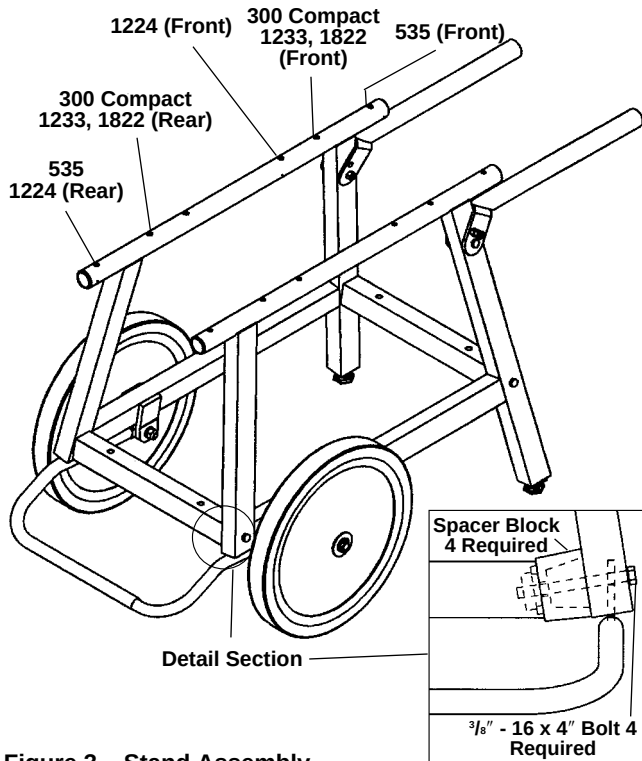

Figure 3 – Stand Assembly
3. Assemble stand with "inside" decals located towards the inside of the stand (Figure 3).
4. Insert stand stop tabs into bottom of the legs as shown in the detail drawing. Insert the four spacers between the legs. Use the four (4) $\frac{3}{8}" - 16 \times 4"$ hex bolts to secure the legs to the cross-member. Adjust the two halves of the stand stop to the proper distance
CAUTION For proper balance and operation, RIDGID machines must be mounted through the appropriate holes in the legs (*Figure 3*).